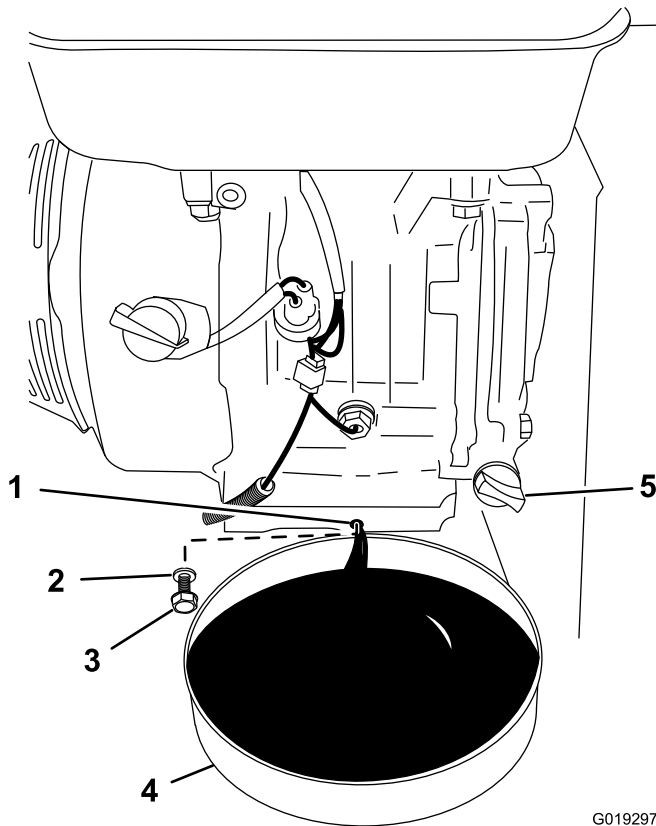

Figure 25
2. Place a drain pan, with a 1.9 L (2 US qt) capacity or greater, under the oil-drain port of the engine (Figure 25).
3. Remove the drain plug and washer, and drain the oil (Figure 25).
4. When the oil has drained completely, install the drain plug with a new washer, and wipe up any spilled oil (Figure 25).